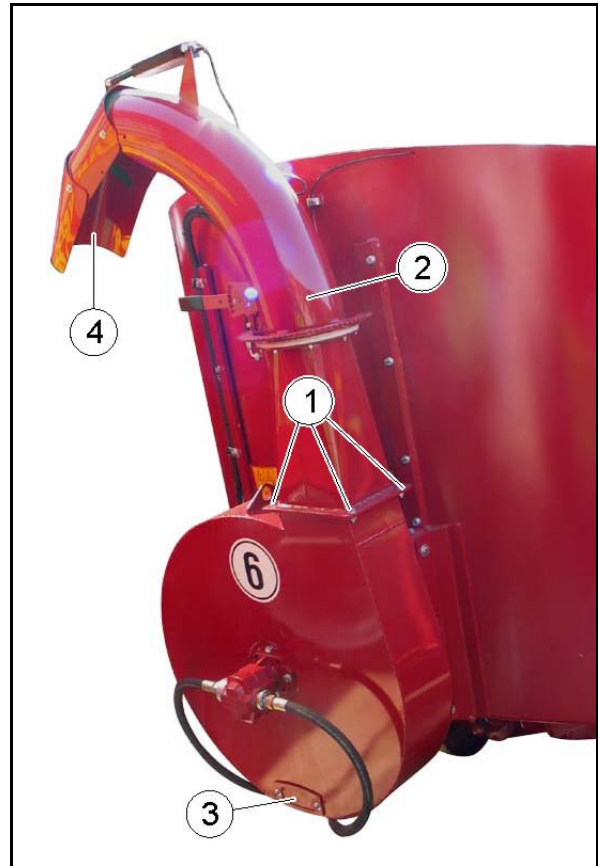

Fig. 85
Wait for the blower wheel to stop completely before unscrewing the screws (Fig. 85/1) at the blow-out pipe (Fig. 85/2) or removing the cover (Fig. 85/3) or the ejection hood (Fig. 85/4).
5. Unscrew 3 screws (Fig. 85/1) from the blow-out pipe (Fig. 85/2) such that the blow-out pipe can be easily rotated around one of the front screws.
8. Open the cover (Fig. 85/3) at the blower casing, in order to remove e. g. stones from the blower casing.
9. Screw the blow-out pipe and the cover to the blower casing as illustrated in (Fig. 85) before switching the blower on.